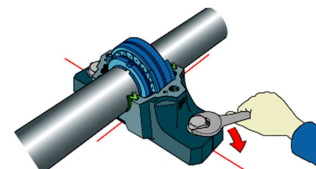

Figure 10 Line-up
- LINE UP THE HOUSING USING THE ALIGNMENT ENGRAVING AND SLIGHTLY TIGHTEN THE BOLTS, FIGURE 10.